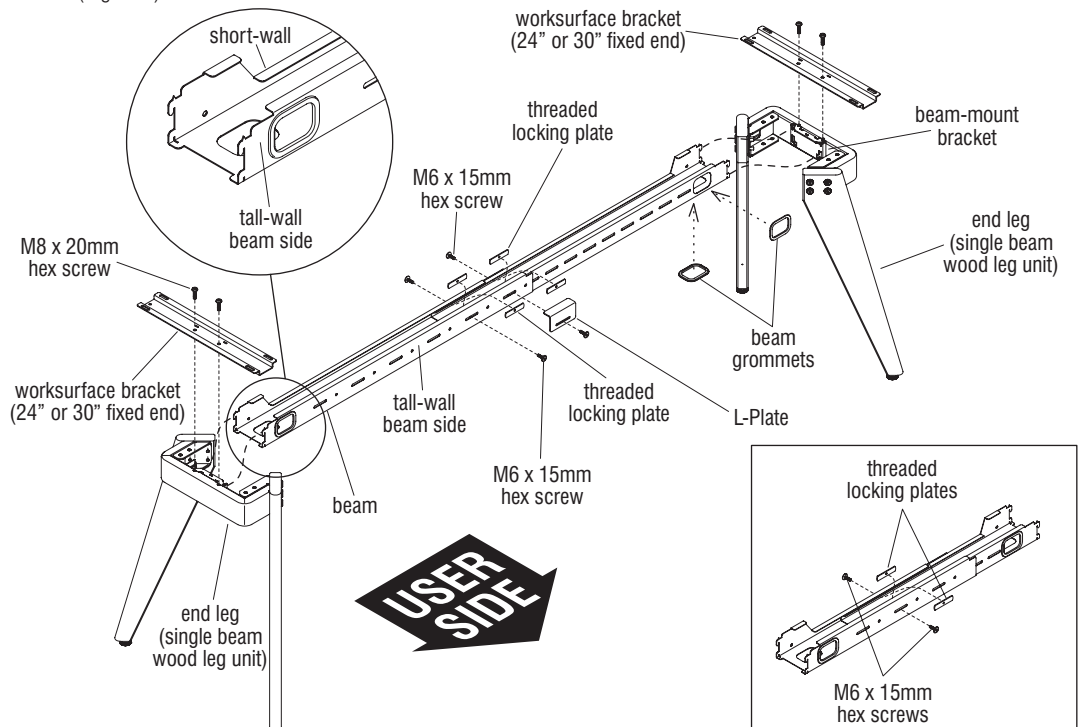

Figure 6 - Single Beam Wood Leg Unit - Legs & Beam Assembly
3. With the tall-wall side of the beam positioned correctly facing the user-side, insert the beam ends into the beam-mount brackets at the top of each leg. Using a 1½" diameter, weighted hard-rubber mallet, tap down on the vertical wall at the mounting end of the beam until you hear the beam bottom-out, so it is properly nested in the support leg mounting bracket (do not hammer on the ½" formed top flange) (Figure 6).
4. Install worksurface brackets to the “beam-mount brackets” on the horizontal top of each leg. As illustrated, center the worksurface bracket over the beam-mount bracket and secure using two M8 x 20mm hex-drive screws (Figure 6).
5. Per the space-planning layout and worksurface length to be supported, stretch the legs out (extending the beam) to the distance matching the pilot holes of the worksurface(s) (Figure 6).
Important: The screws, when installed into holes and slots should allow at least ¼" of side-to-side play, and be located nearest the ends of both inner and outer members to provide the greatest stability. Twist screws in only finger-tight at this time (Figure 6).
Important: If beam is 36" to 42" in length, no L-Plate is required. If beam is 48" to 72" in length, install a ⅛" thick L-plate using a M6 x 15mm hex-drive screw through the L-Plate, the beam assembly and into a threaded locking plate as with the others. If beam is 72" to 96" in length, install a ¼" thick L-plate using a M6 x 15mm hex-drive screw through the L-Plate, the beam assembly and into a threaded locking plate as with the others (see inset detail, Figure 6).
7. At both ends of the beam, on the tall-wall side and at the beam underside, install two plastic beam grommets into the wire-access holes, positioning the larger flange to the outside when nesting into place (Figure 6).